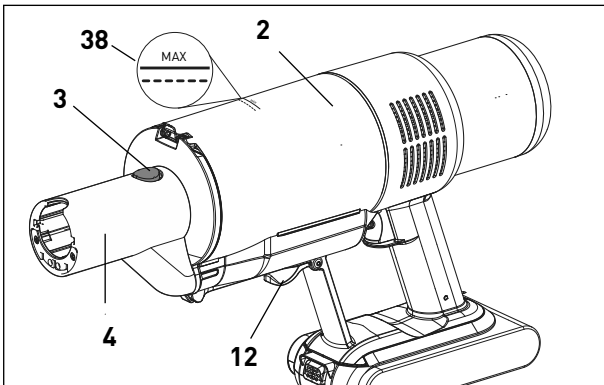

Figure 12
Emptying the Dust Container - Figures 12-16 - The dust container (4) must be emptied when the "MAX" level (38) is reached (figure 12).